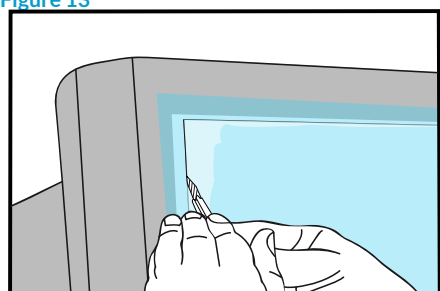

Figure 14
- › Cut the film, using the CUTVITRE fitted with a new blade, following the edge of the screen. (FIG. 14)